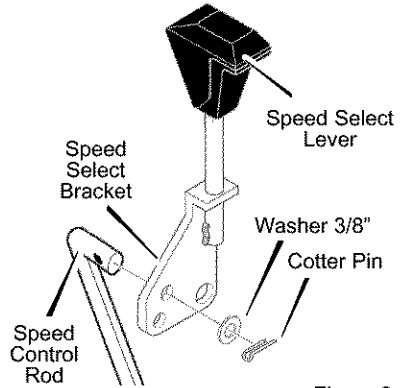

Figure 9
2. Attach the **speed control rod** (end with 90° bend) to the **speed select bracket** with **washer** and **cotter pin**. See Figure 9.